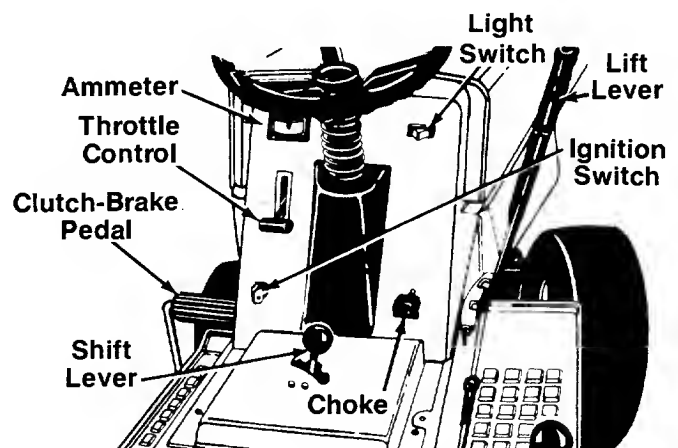

FIGURE 11.
The throttle control is used to regulate the engine speed. To get maximum efficiency from cutting, the throttle should be in the FAST position when operating the mower. See figure 11.
The choke control is located on the dashboard and is operated manually. Details for the choke operation are covered in the separate engine manual packed with your unit. See figure 11.
The shift lever is located on the console and has three positions, FORWARD, NEUTRAL and REVERSE. See figure 11. The clutch-brake pedal must be depressed and the lawn tractor must not be moving when shifting
Turn the key to the START position to start the engine. When the engine is running, let the key return to the ON position. To stop the engine, turn the key to the left to the OFF position and remove it to prevent accidental starting. See figure 11.
Push the light switch to turn on the lights. The lights will only operate when the engine is running. See figure 11.
The ammeter registers the rate of battery charge or discharge. The ammeter will register on the discharging side when starting the engine. It should register on the opposite side (charging) when the engine is running in the fast position until the battery is completely charged. With a fully charged battery or with the engine idling, the ammeter will not show a charge. See figure 11.
The clutch-brake pedal is located on the left side of the lawn tractor. Depressing the clutch-brake pedal part way disengages the clutch. Pressing the pedal all the way down disengages the clutch and engages the disc brake. See figure 11.
4. Set the throttle control in the FAST position. See figure 11.
6. Turn the ignition key to the START position. When the engine is running, let the key return to the ON position. See figure 11.